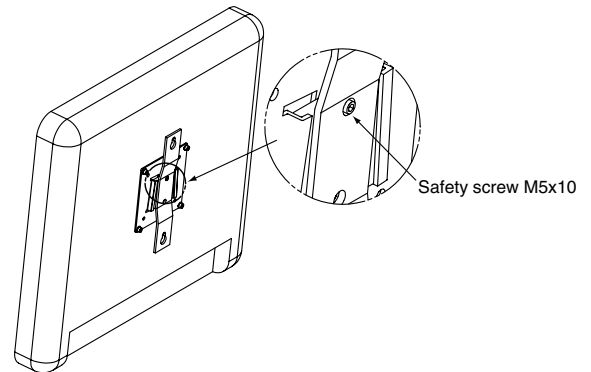

Figure 4
- ⑤ Lock the panel in place by tightening the safety screws (see Fig. 4).